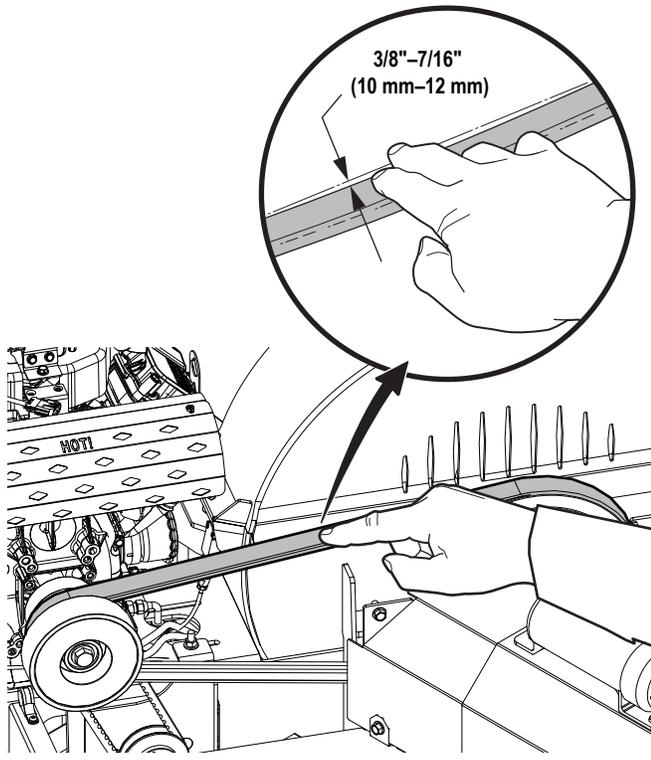

Figure 50 – Check the rotor drive belt tension
1. Press on the top centre of the rotor drive belt and measure the distance it moves. See *Figure 50 on page 71*.